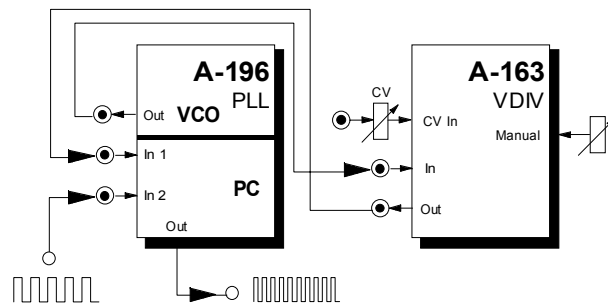

Fig. 2: Frequency multiplication with A-163
A very important application of the A-196 is **frequency multiplication**. For this the output of the internal VCO is connected to the input of an external frequency divider (e.g. the VC frequency divider A-163 or the A-160). The output of the divider is connected to input ② of the phase comparator (see fig. 2). By this the internal VCO oscillates at a multiple of the frequency of the external signal. The multiple is defined by the setting of the frequency divider. For this application PC2 is recommended as it does not lock at harmonics.
Example: Setting the A-163 to a dividing factor 5 causes the fivefold frequency at the VCO output of the A-196 compared to the frequency of the external signal fed into input 2 of the PC (multiple A-180 at the VCO out of A-196 required, not shown in fig.2).